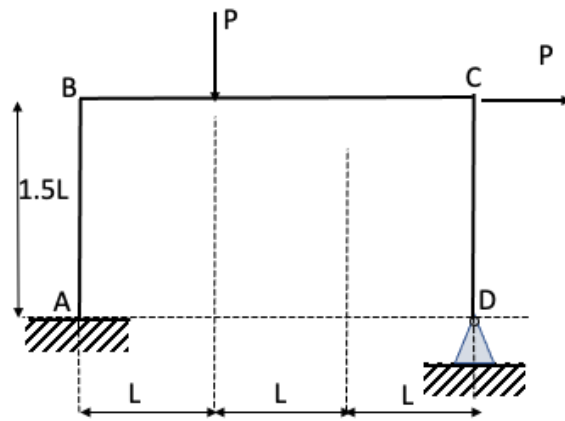

Figure Q6
6. For the frame shown in Figure Q6 where the beam and columns have plastic moment capacities of M , what is the minimum collapse load?